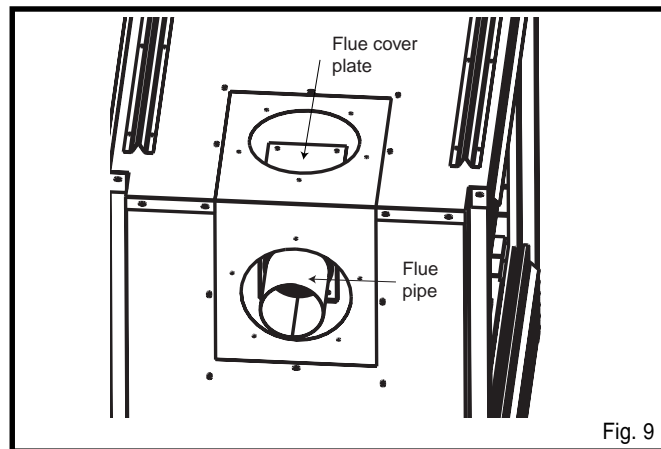

Fig. 11 Flue pipe removal
4. Remove the 4 screws securing the flue cover plate to the top of the intake box and remove the cover and gasket (Fig. 11).
5. Remove 4 screws securing the flue pipe to back of the intake box and remove pipe and gasket (Fig. 11).